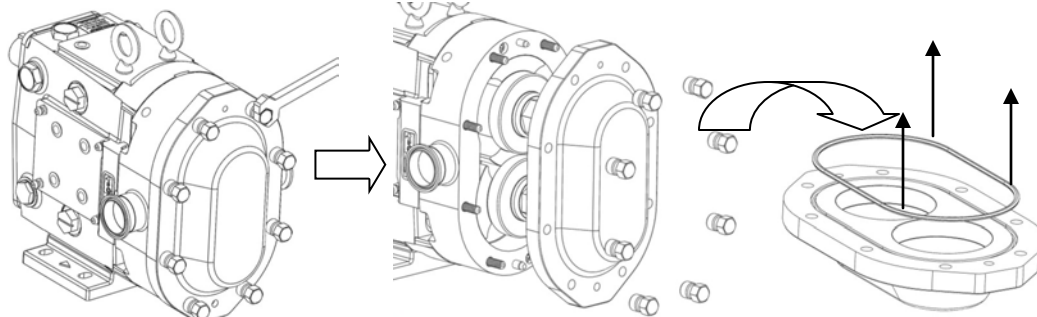

Figure 1: Removing ZP3 Cover
1) Start by removing the cover nuts with an appropriate wrench (Figure 1). During disassembly place all parts on a clean, protected surface with finished surfaces and seal faces facing up. Tap the cover off using a soft mallet. Remove the cover o-ring and inspect it.